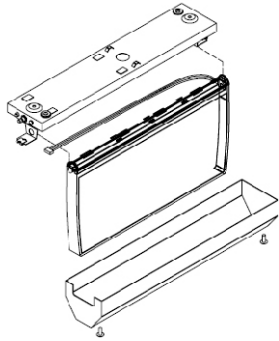
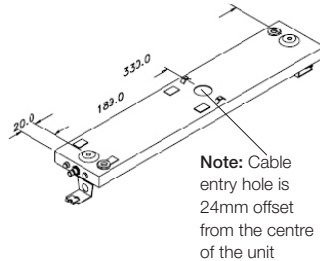

Figure 1a: Showing sequence of components
Figure 1b: Mounting and cable entry hole dimensions
3. Please note circuit supplying mains power to the fitting must not be energised until installation of the fitting is completed. The base of the unit is installed first on the ceiling (refer figure 1a), the mounting and cable entry hole dimensions shown in figure 1b can be used as a template, for the purpose of marking/drilling. The data cable only connects for the Nexus unit (part number PLSNXSLED/PLSNXSLEDP). Once the base is installed on the ceiling, connect the incoming unswitched active, neutral and earth to terminal marked USA, N and E respectively. Connect the Nexus data cable (only for Nexus unit).